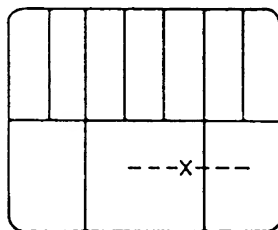

Fig. 4-15
- 1) Connect an oscilloscope's CH-1 to the TR510 emitter (ENVE) on the MAIN (A) PCB and CH-2 to the TP1 (VSWP) on the PRE AMP PCB for triggering.
- 3) Press one of the TRACKING buttons on the remote control until the "x" mark can be seen in the center position of the tracking range on the TV screen as shown in Fig.4-15.